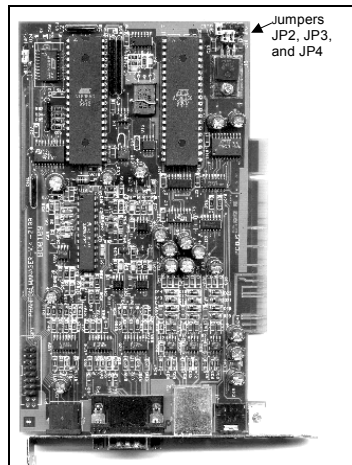
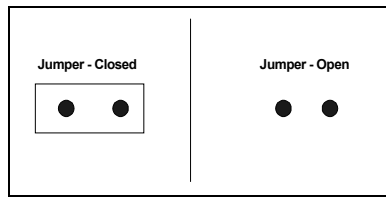

Figure 6-8 The Manager card
Figure 6-9 Jumper closed and open
3. Locate Jumper **JP3** and close it. See Figure 6-8, and Figure 6-9.
4. Locate Jumper **JP3** and close it. See Figure 6-8, and Figure 6-9 above.